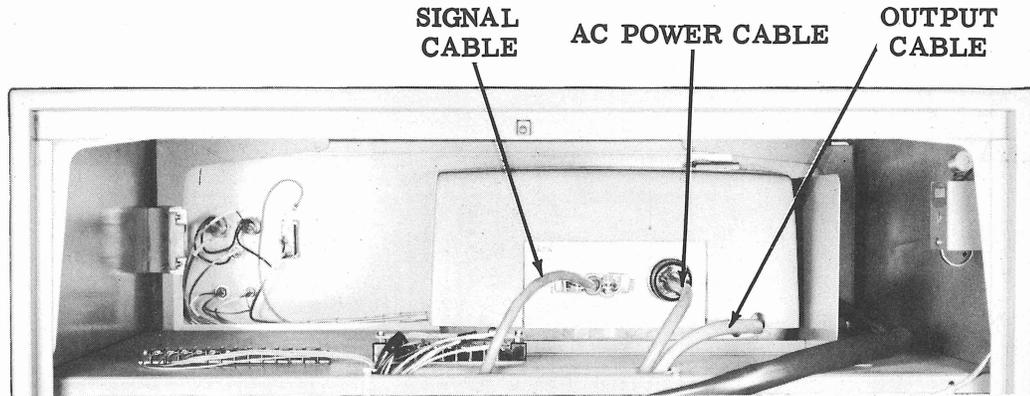

Figure 11 - Rear View Station Controller Cabinet Data Set Installed
6.01 Insert the data set between the two retainers on the upper shelf (see Figure 11). Connect the ac twist receptacle from the cabinet to the plug at the rear of the data set. Connect the multipin plug from the module circuitry into the receptacle at the rear of the data set, and lock the plug in place. The output from the data set should be routed to the duct at the bottom of the Control Cabinet and out to the high speed data line. Connection of the data set to the high speed line can be found in the appropriate section.